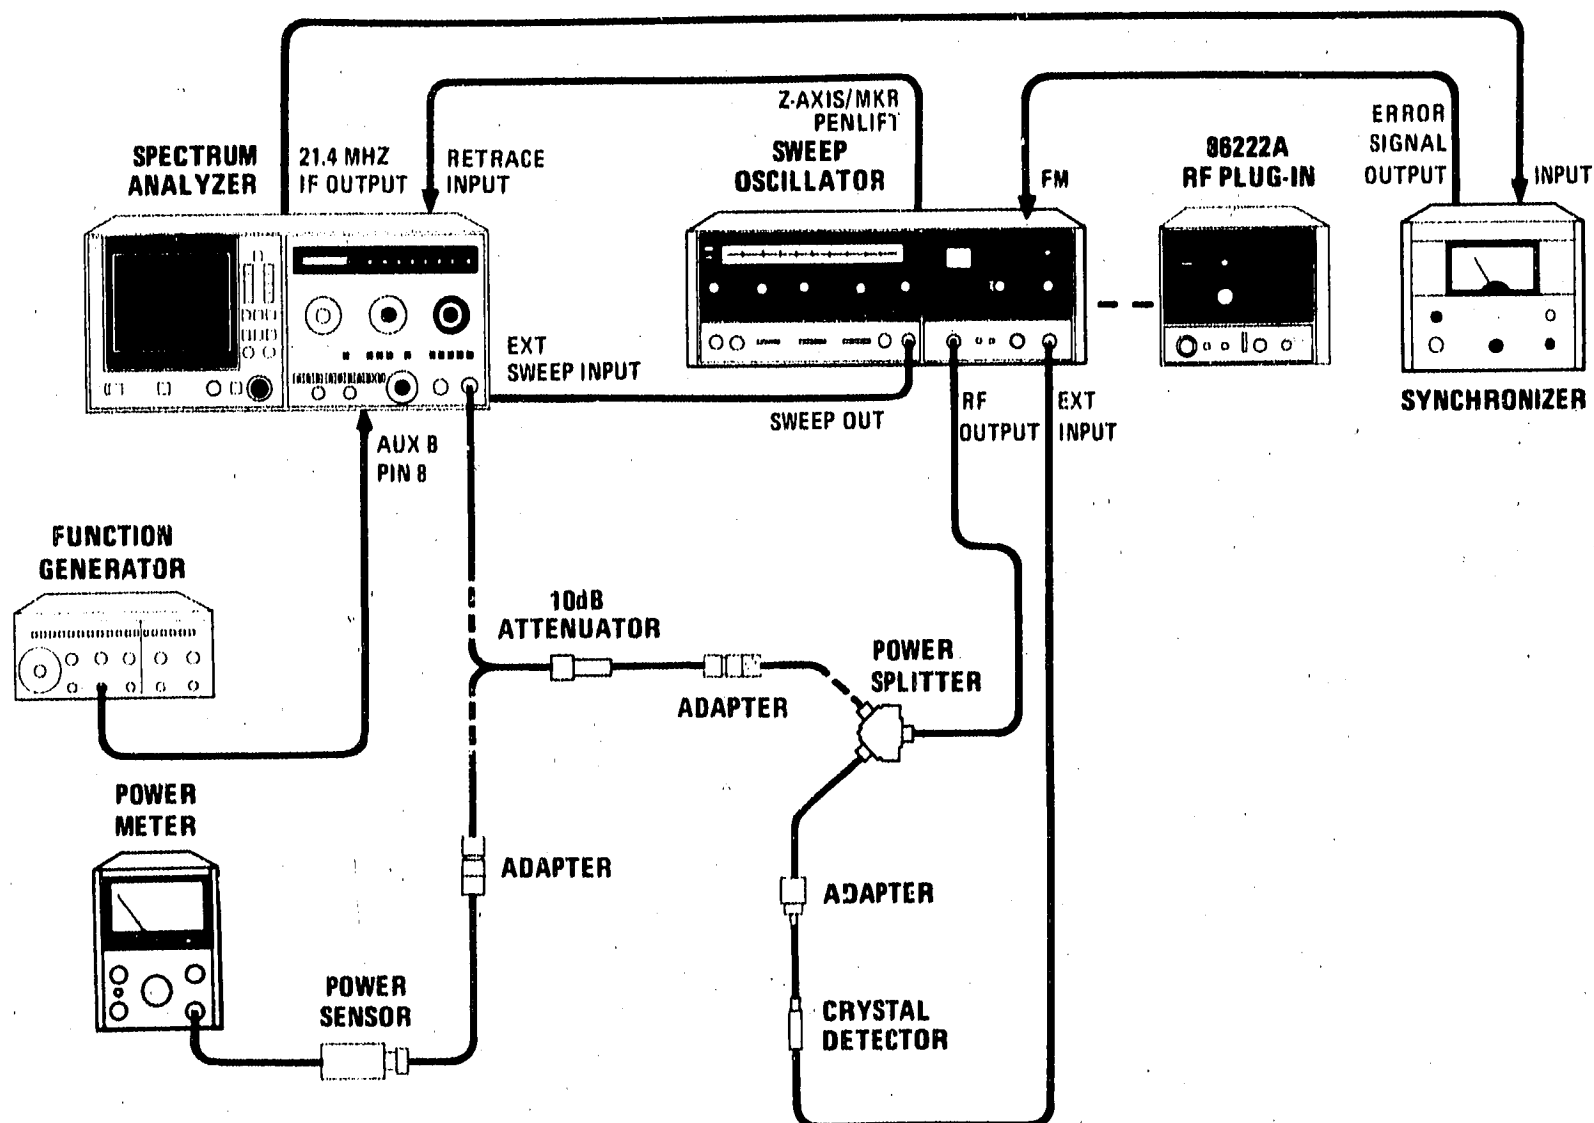

Figure 5-54. Frequency Response Adjustment Test Setup
2. Reconnect power cord, set LINE switch ON, and connect equipment as shown in Figure 5-54. Set all normal (green) spectrum analyzer settings, except as indicated, and other controls as follows:
15. With equipment connected as shown in Figure 5-54, set A28S1 NORM-OFF-TEST switch to NORM. Set spectrum analyzer FREQUENCY BAND GHz to 3.8–8.5, INPUT ATTN to 10 dB, REF LEVEL dBm to -10, and REFERENCE LEVEL FINE to 0. Set synchronizer ERROR SIGNAL switch to -. Set sweep oscillator to sweep from 3.8 GHz to 8.5 GHz. Set TRACE A and TRACE B to STORE BLANK.